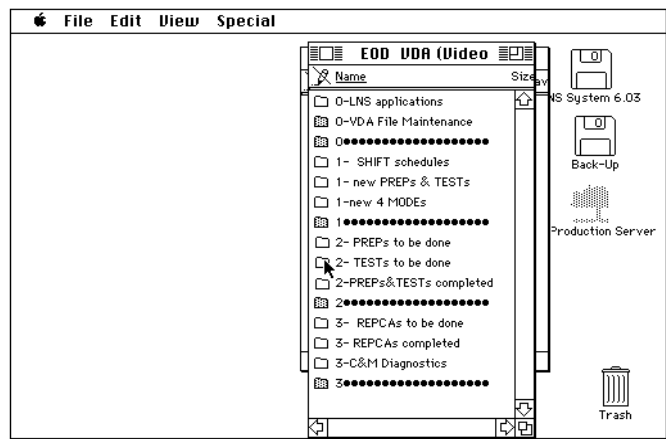

Figure 11
- 12.1 Position the mouse pointer on the “2-TESTs to be done” folder and double click to open it. See Figure 11.